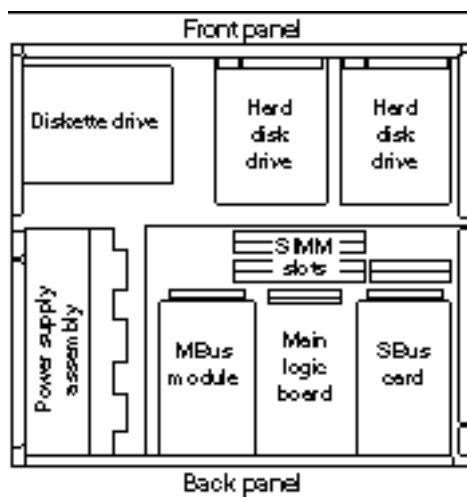

Figure 1-4 Top View of the SPARCstation 10 System without Cover
- Figure 1-4 presents the top view of the system with the cover removed, without the cabling.